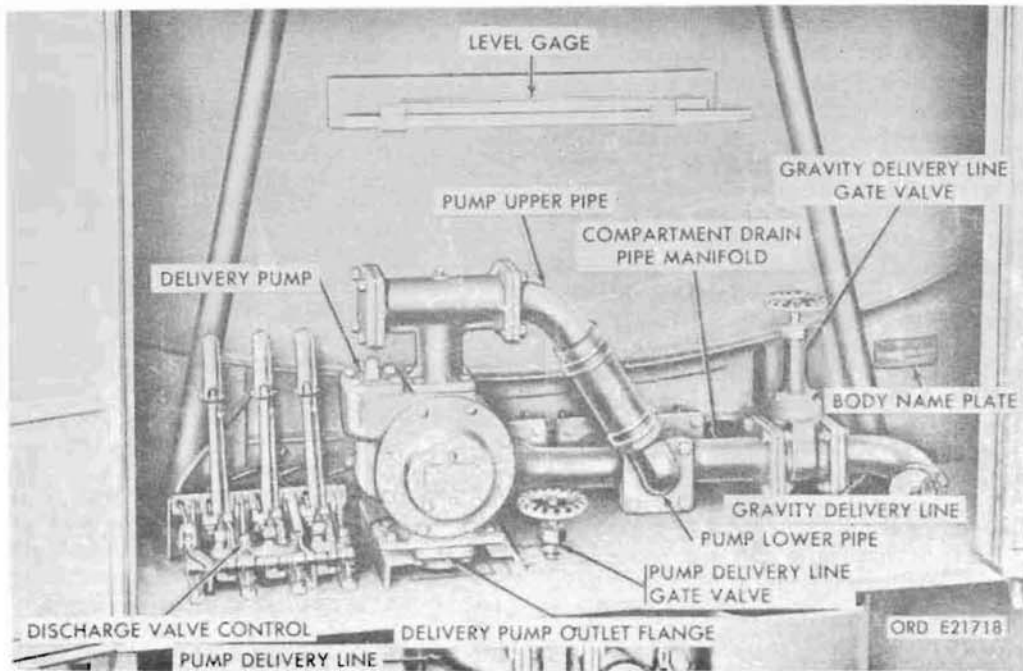

Figure 283. M49 fuel tank body rear compartment components
tain a 2-inch fusible plug as a safety measure in case of fire. Each tank compartment discharges gasoline through its own discharge valve (fig. 294) in the bottom of the compartment into the discharge pipe manifold. The discharge valves are operated from the discharge valve control (fig. 283) in the equipment compartment. An emergency remote control shutoff cable is connected to the discharge valve control assembly and terminates in a pull knob at the left front of the body. When the knob is pulled, a spring-loaded latch releases all three discharge valve control levers, closing al
three discharge valves. A fusible link is also connected to the spring-loaded latch. In the event of a fire, the fusible link will separate, causing the latch to release all three discharge valve control levers, and close the discharge valves. In later production trucks, fusible links are installed at each discharge valve to close the valve if the link is separated by fire. Three discharge pipes drain into a drainpipe manifold in the equipment compartment from which gasoline can be dispensed through the gravity delivery-line gate valve (fig. 283) or fed to the pump. The pump discharges gasoline under pressure through the pump-delivery-line gate valve. Power to operate the pump is obtained from the transfer power takeoff through the delivery pump front, intermediate, and rear drive shafts located under the tank body. Refer to TM 9-2320-209-10 for a complete description of the functions of the valves and fittings.
- (3) M49 truck (fig. 283). The M49 model fuel tank truck dispenses fuel into the fuel delivery hose either by gravity or through a pump (11, below), without